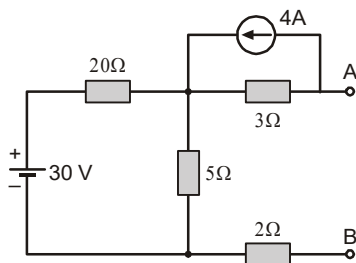

Fig.1.112: Given circuit
5. Find the thevenin's equivalent circuit for terminal pair AB of the network shown in fig.1.112. (Ans. $E_{th} = -6V$, $R_{th} = 9\Omega$)